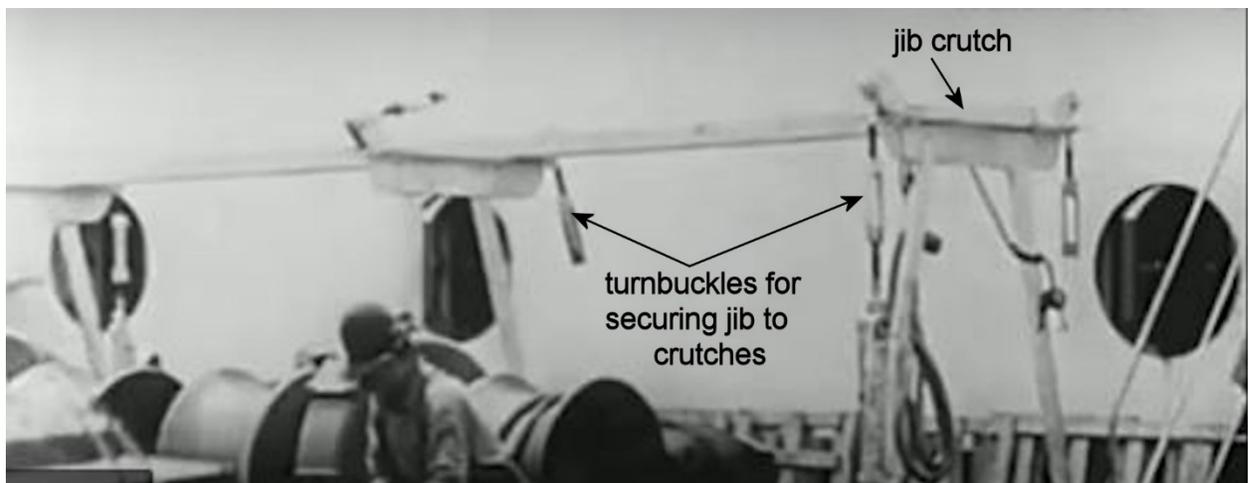

Figure 3
1. The securing plates with turnbuckles are loosened and unsecured from the crane jib. Figure 3 shows the jib crutch with the jib removed and the turnbuckles detached.